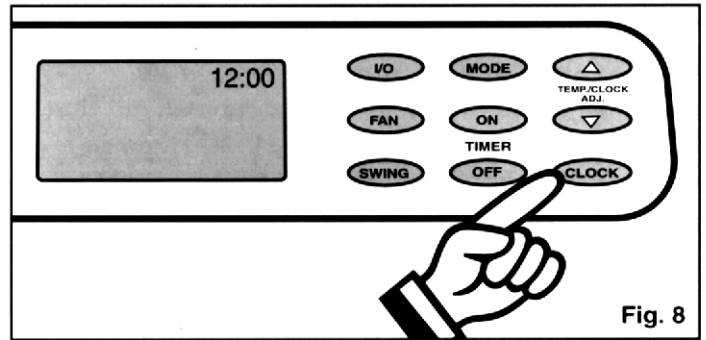

Fig. 8
- 1) Push and hold the **CLOCK** key pad for three (3) seconds. The clock display will flash indicating "12:00" for approximately 10 seconds. *Fig. 8.*